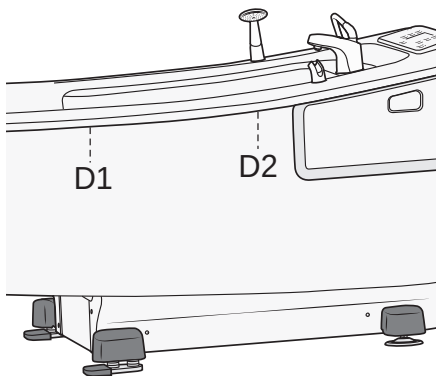

Figure 102
6. At the disinfection side under the rim, remove nut (D1) and then nut (D2), holding the outer cover. See Figure 102.